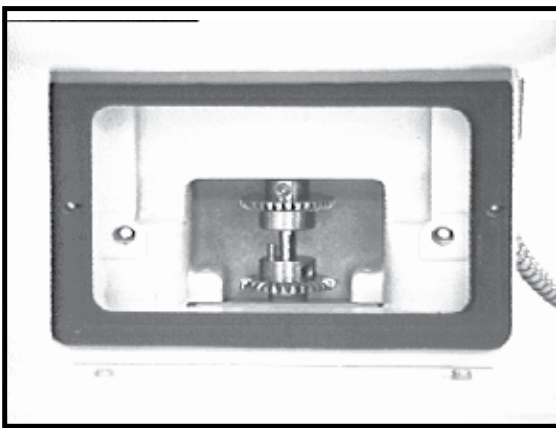

Fig. 3
- Remove the two (2) black thumbscrews and lift out the index. Compare the bevel gear placement with Figures 3 and 4 on Page 20 to determine if the instrument is setup to work with a CW or CCW instrument drive.